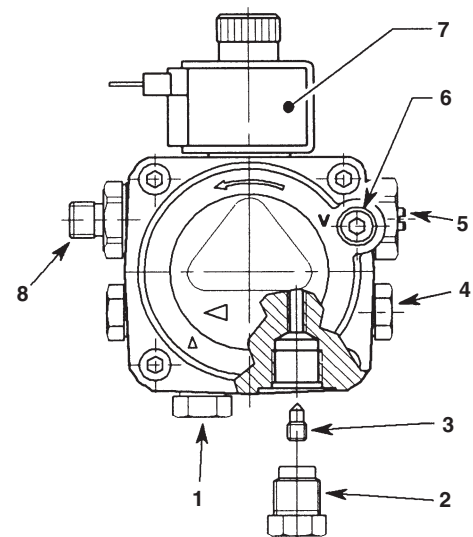

Fig. 6 - Riello RDB pump
Riello RDB burner - See Fig. 6
- 1 The fuel pump is supplied for use with a single pipe fuel supply system. For use on a two pipe system, it is necessary to fit the By-pass screw (see Fig. 6) into the tapping in the return port.